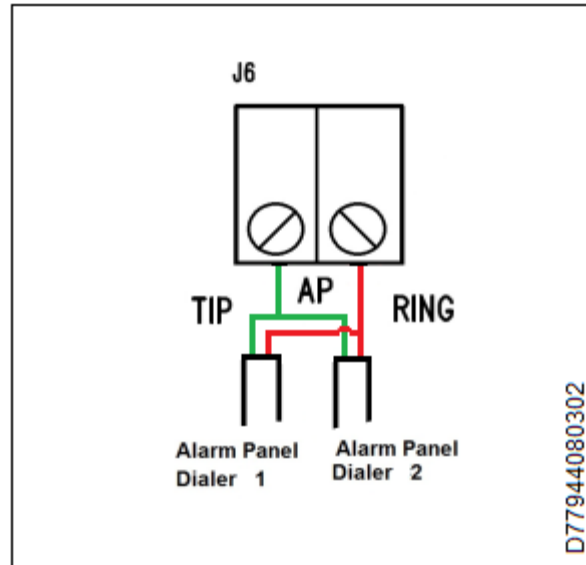

Figure 6C.
- 1) Connect the FACP Dialer 1 and Dialer 2 TIP and RING to the 7794 terminal block labeled AP TIP RING as shown in Figure 6C below.